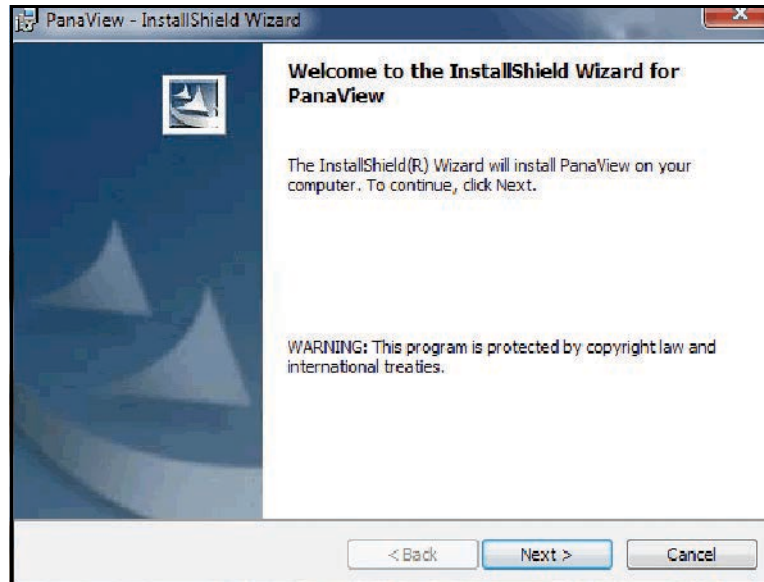

Figure 3: Install-Shield Wizard Screen
3. The *Install-Shield* wizard, shown in *Figure 3* below, will launch and guide you through the installation process. Click on the **[Next]** button to continue.